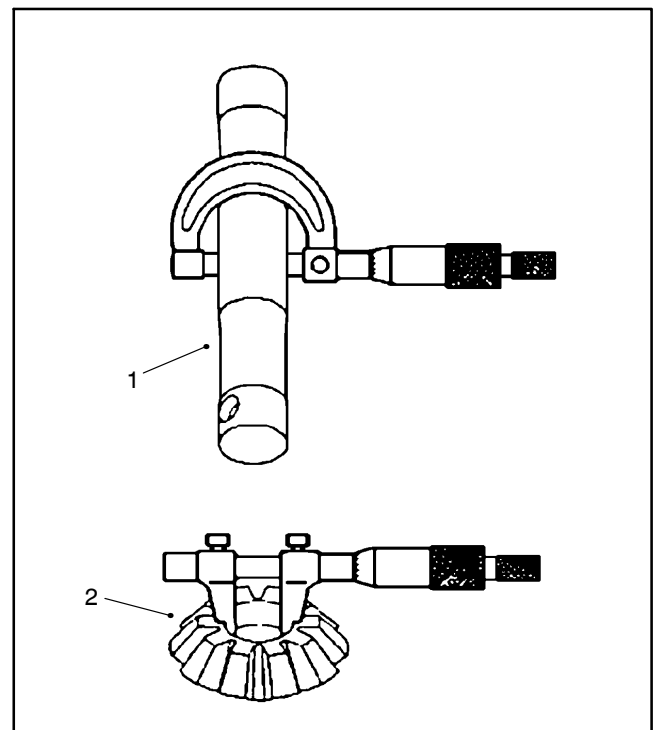

Figure 41
2. Measure the differential pinion shaft O.D. and the pinion gear I.D. to determine the pinion shaft to pinion gear clearance (Fig. 41). Replace components as necessary.